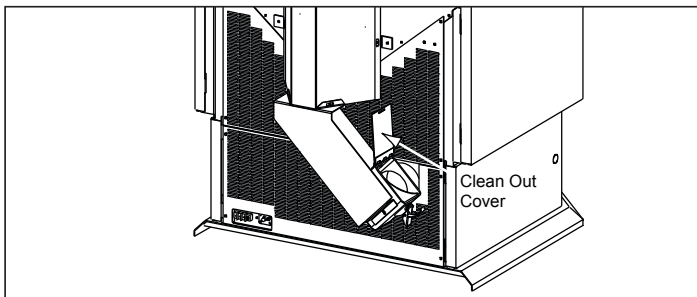

Figure 34.1
- b. Open the clean-out cover. **See Figure 34.1.**